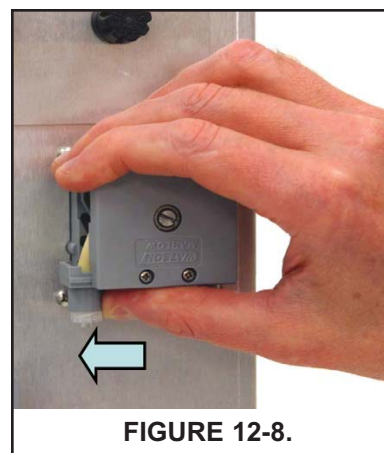

FIGURE 12-8.
4. Using your thumb as shown in Figure 12-8, push the tubing fitting straight outward until the fitting slides out of the socket. Repeat the process for the other fitting.